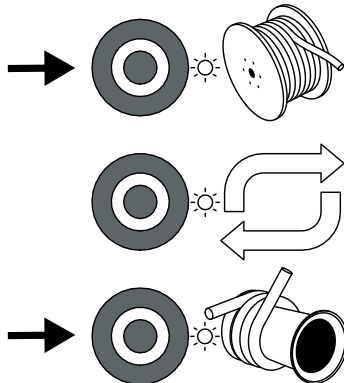

Figure 10
- When the Mode Select LEDs next to the Mode Select Buttons start flashing white, select Puller or Feeder endpoint indicated by the icons (Fig. 10).